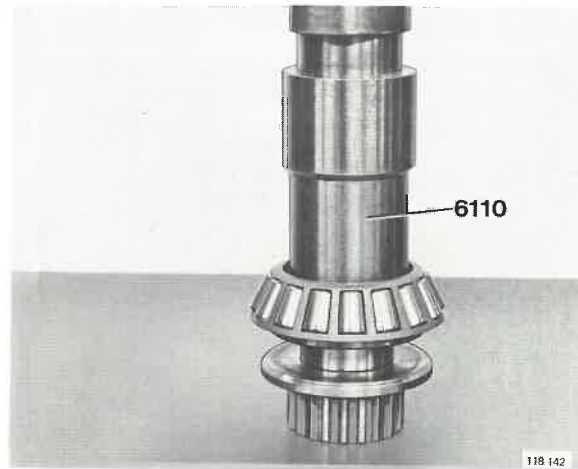

Fig. 92-78. Pressing on the bearing
13. Place the washer on the input shaft. Note that the bevel should face upwards. Press on the roller bearing with 6110 see Fig. 92-78. Place the key on the shaft.